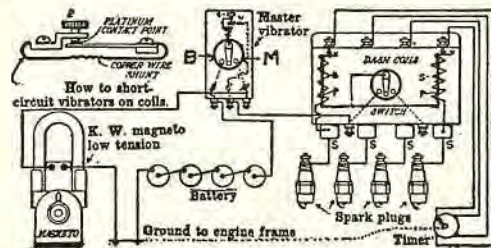

Fig. 12. K. W. low-tension inductor-type magneto connected with a high-tension coil-ignition system using a K.W. master vibrator coil.
The K. W. inductor type of low-tension magneto, used with a master-vibrator, is shown in Fig. 12. Dry cells are used as a source of supply for starting when the switch lever is on the left, or (B) side. The magneto is used when the switch is on the (M) side. Note that the vibrators on the dash coil are short-circuited, as seen in the top left illustration, and are not used on the multiple dash coil to the right, as the one vibrator on the master-vibrator coil does the vibrating for the four coils.